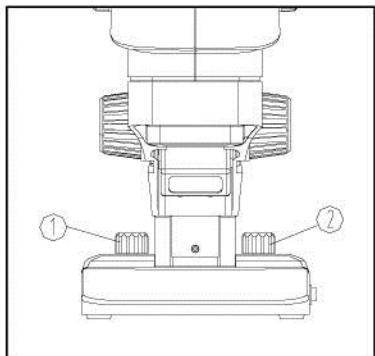

Fig. 3
Setting Illumination (Fig. 3)
Turn the light adjustment knobs ① and ② as shown on the base in Fig. 3: turn clockwise to increase brightness; counterclockwise to decrease brightness.